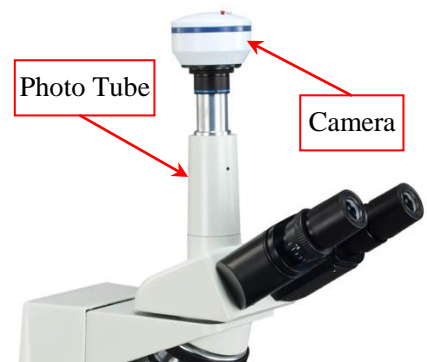

Fig. 6
- 2) Insert the camera into the photo tube, and then connect the camera to a computer via USB2.0 cable. See **Fig. 6**.